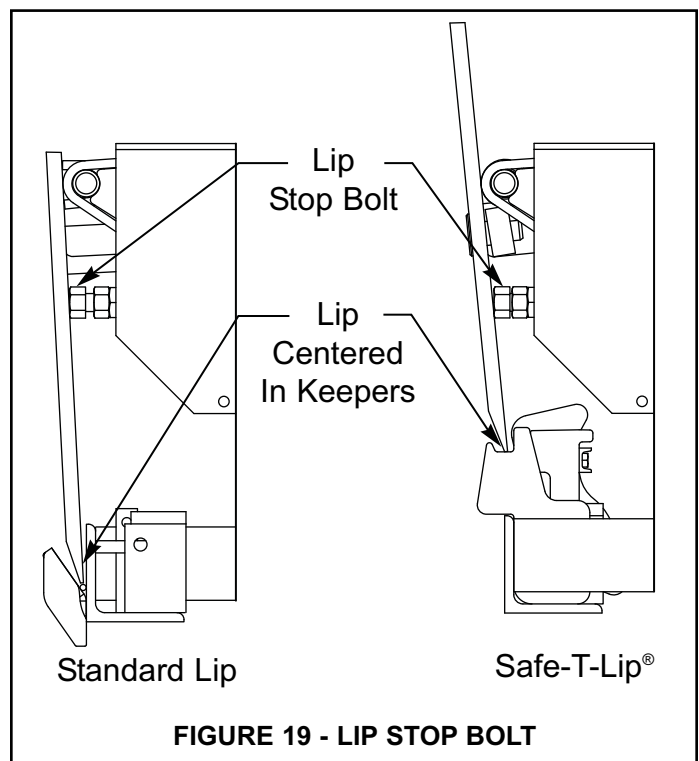

FIGURE 19 - LIP STOP BOLT
22. Verify Lip Stop Bolt adjustment. See figure 19.